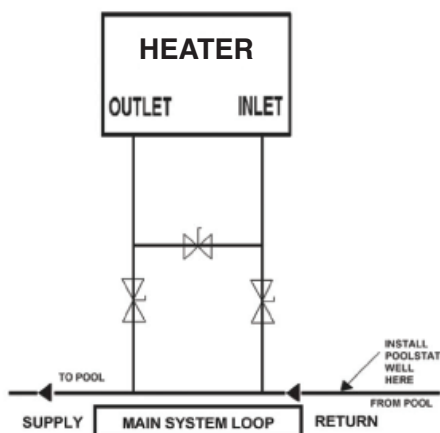

Fig. 20: Installation Location
1. Locate and mark an area on the main system return loop pipe where the well is always exposed to the water circulating back from the pool. See Fig. 20.